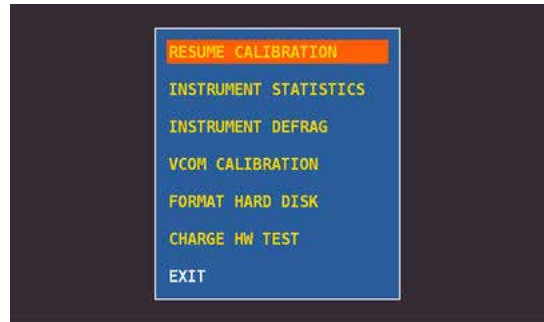

Figure 2: Menu selection
4. Select "**RESUME CALIBRATION**" (figure 2), press the encoder (ENTER) and wait for the execution of the process;